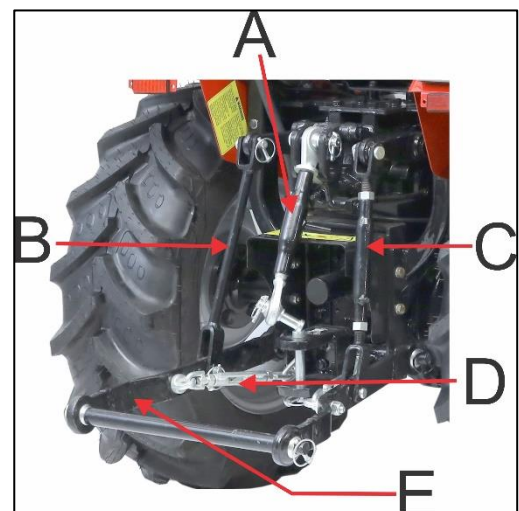

Fig.4.22
- A. Fix top link to the lower hole for greater sensitivity (1)
- In Fig. 4.22 (B) is FIXED LIFT ROD and (C) is the ADJUSTABLE LIFT RODS. It can be adjusted mechanically or Hydraulically, depending on the lifting, to make the lower links level and lined up with each other.
- The LATERAL STABILIZERS CHAIN (D) can be set to reduce lateral movement of the lower links if the three-point linkage contacts with graders, rollers, holes, weeder etc.,